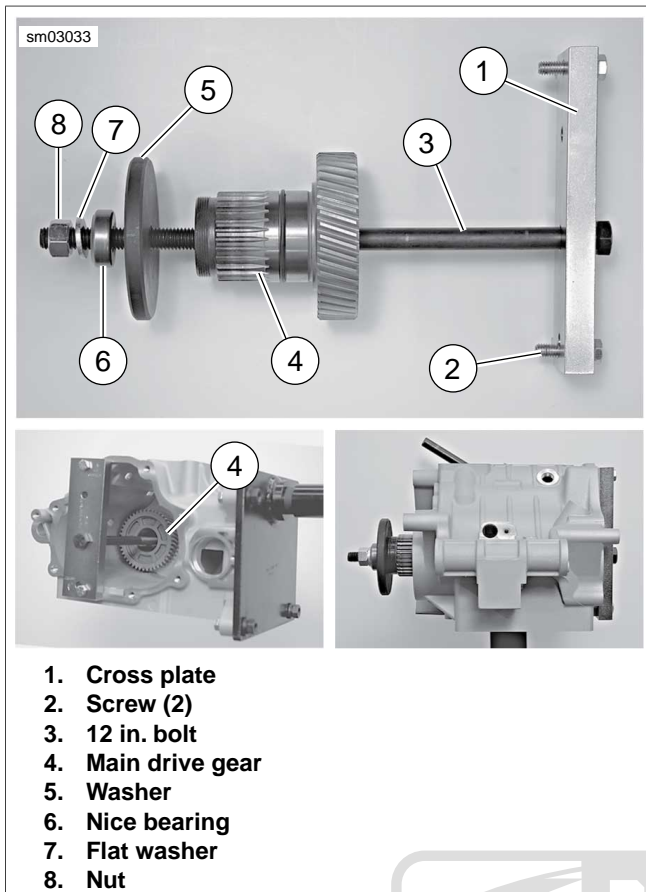

Figure 6-34. Removing Main Drive Gear
6. See Figure 6-34. Place CROSS PLATE (Part No. HD-35316-3A) (1) on right side of transmission case as shown, and secure with two screws (2). Position cross plate so